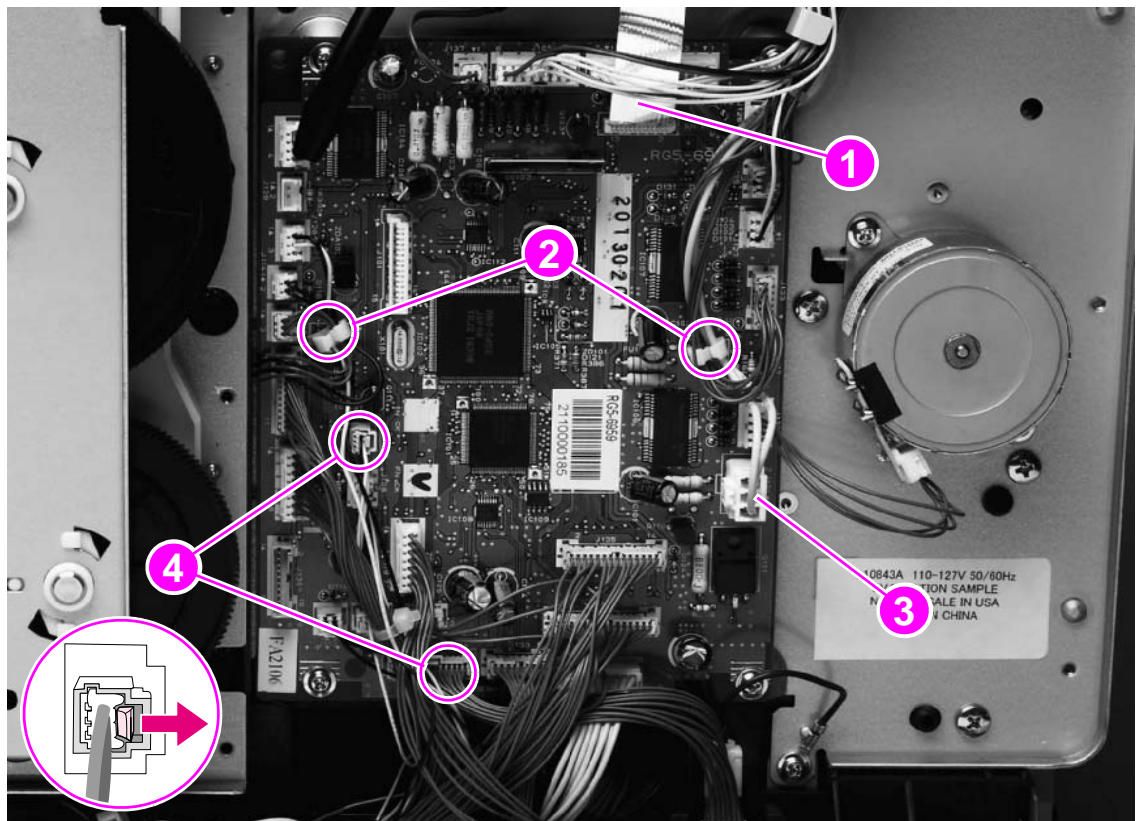

Figure 60.
- 5 Unplug two cable connectors (callout 4) by releasing a clip on each connector (see the detail in the lower-left corner of figure 60).